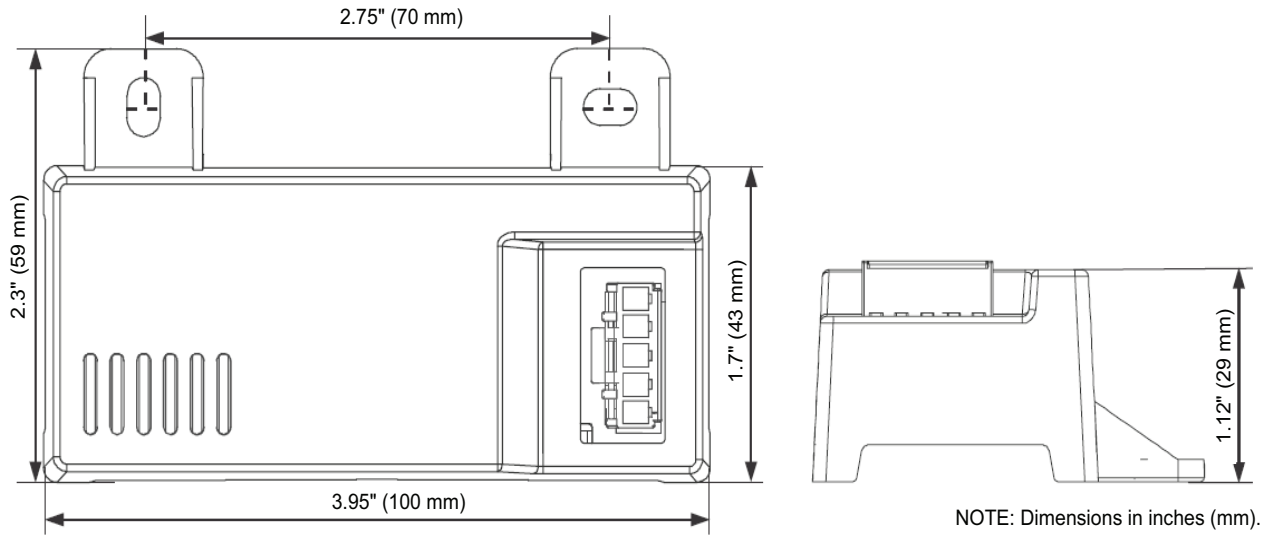
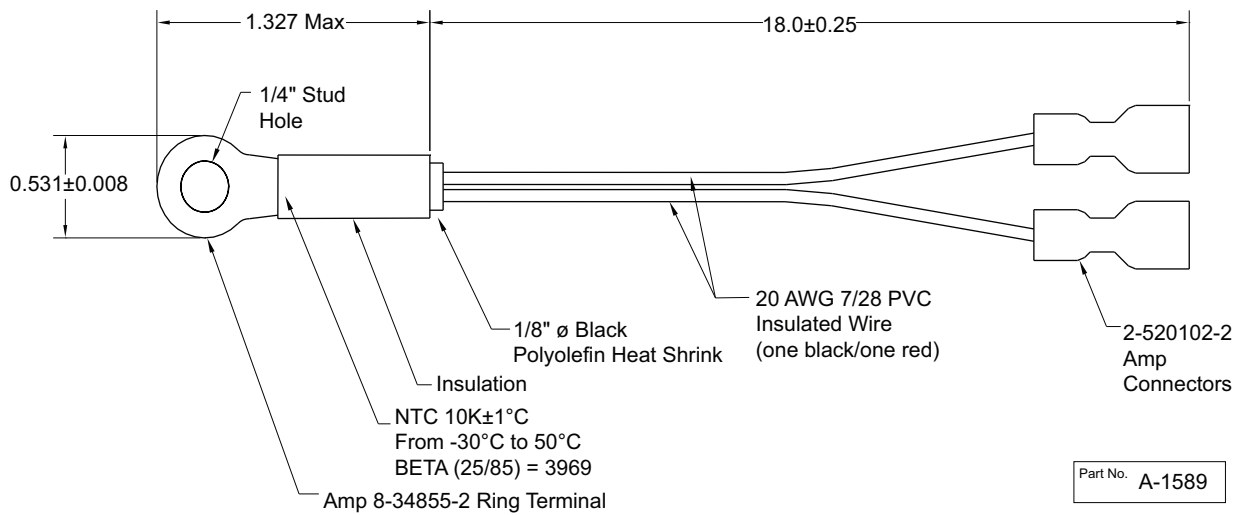
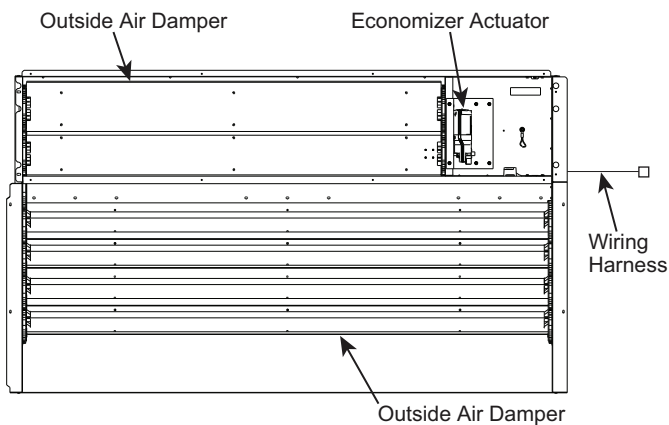

Fig. 73 – HH57LW001 Dimensional, Connection and Switching Information
Fig. 74 – HH79NZ039 Dry Bulb and Mixed Air Sensor Wiring
Fig. 75 – EconomizerONE System Component Locations
When using the HH57LW001 enthalpy sensor (see Fig. 73) for outside air changeover, the existing HH79NZ039 dry bulb sensor (see Fig. 74) must be removed. The enthalpy sensor will be mounted in the same location as the dry bulb sensor (see Fig. 75). When the enthalpy sensor's OA (Outside Air) temperature, enthalpy, and dew point are below their respective set points, outside air can be used for free cooling. When any of these are above their set point, free cooling will not be available. Enthalpy set points are configurable and create an enthalpy boundary according to the user's input. For additional details, see Fig. 76-77 and Table 27.
The optional enthalpy control sensor (P/N: HH57LW001) communicates with the POL224 economizer controller using the 5-wire harness, 48TC005213. The HH57LW001 sensor can be used as a single outside air enthalpy, a differential return enthalpy, or a differential return temperature sensor. Refer to the base unit control wiring diagrams found earlier in this book to wire the HH57LW001 enthalpy sensor for each option. See Fig. 73 and Table 29 on page 56 to locate the wiring terminals for each enthalpy control sensor.
Economizers are shipped standard with an HH79NZ039 outside air dry bulb sensor (refer to Fig. 74). System default setting (high temp limit) is 63°F (17°C) and has a range of 48°F to 80°F (9°C to 27°C). Sensor is factory installed on economizer.
If installing the optional HH57LW001 enthalpy sensor, the HH79NZ039 dry bulb outside air sensor must first be removed. Wire sensor to harness 48TC005213 and the (5) wires from the harness to the EconomizerONE harness in the return air chamber. Harness 48TC005213 has a 5-pin plug that connects directly to the HH57LW001 enthalpy sensor. Refer to the base unit control wiring diagrams earlier in this book for wiring connections. Refer to Fig. 73 and see Table 29.